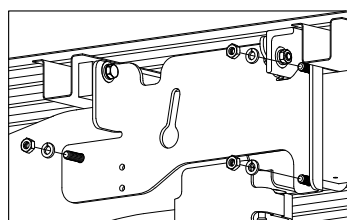

Figure C7: View from outside of Driver Side Frame.
- 4. Install U-Bolt.** Install the U-bolts from inside the frame. Place the U-bolt against the frame staying under the wiring harness and brake line. While making certain that nothing is between the frame and U-bolt, raise the U-bolt until the top leg is level with the top of the frame rail. Then turn the legs toward to the outside so that the U-bolt straddles the frame and the legs pass through the two holes in the sideplate. Attach the carriage bolt and U-bolt with 1/2" hardware as shown in Figure C7. (Do not tighten hardware at this time.)